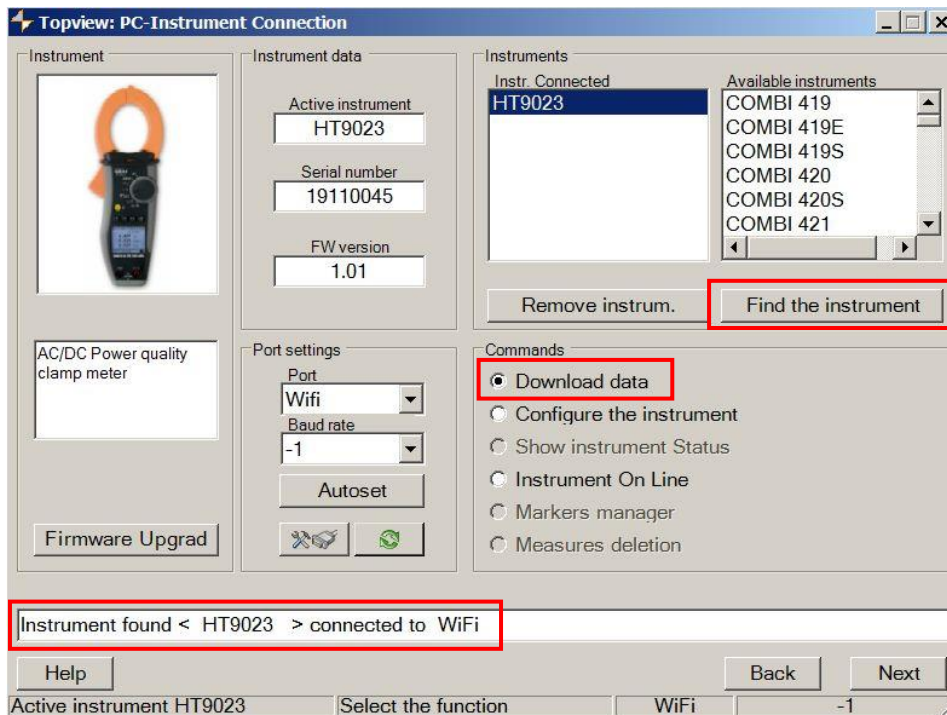

Fig. 16: Instrument detection inside software TopView
6. Launch the TopView software, open the "PC-Instrument connection" section, run the "Find the instrument" command and check recognition (see Fig. 16)